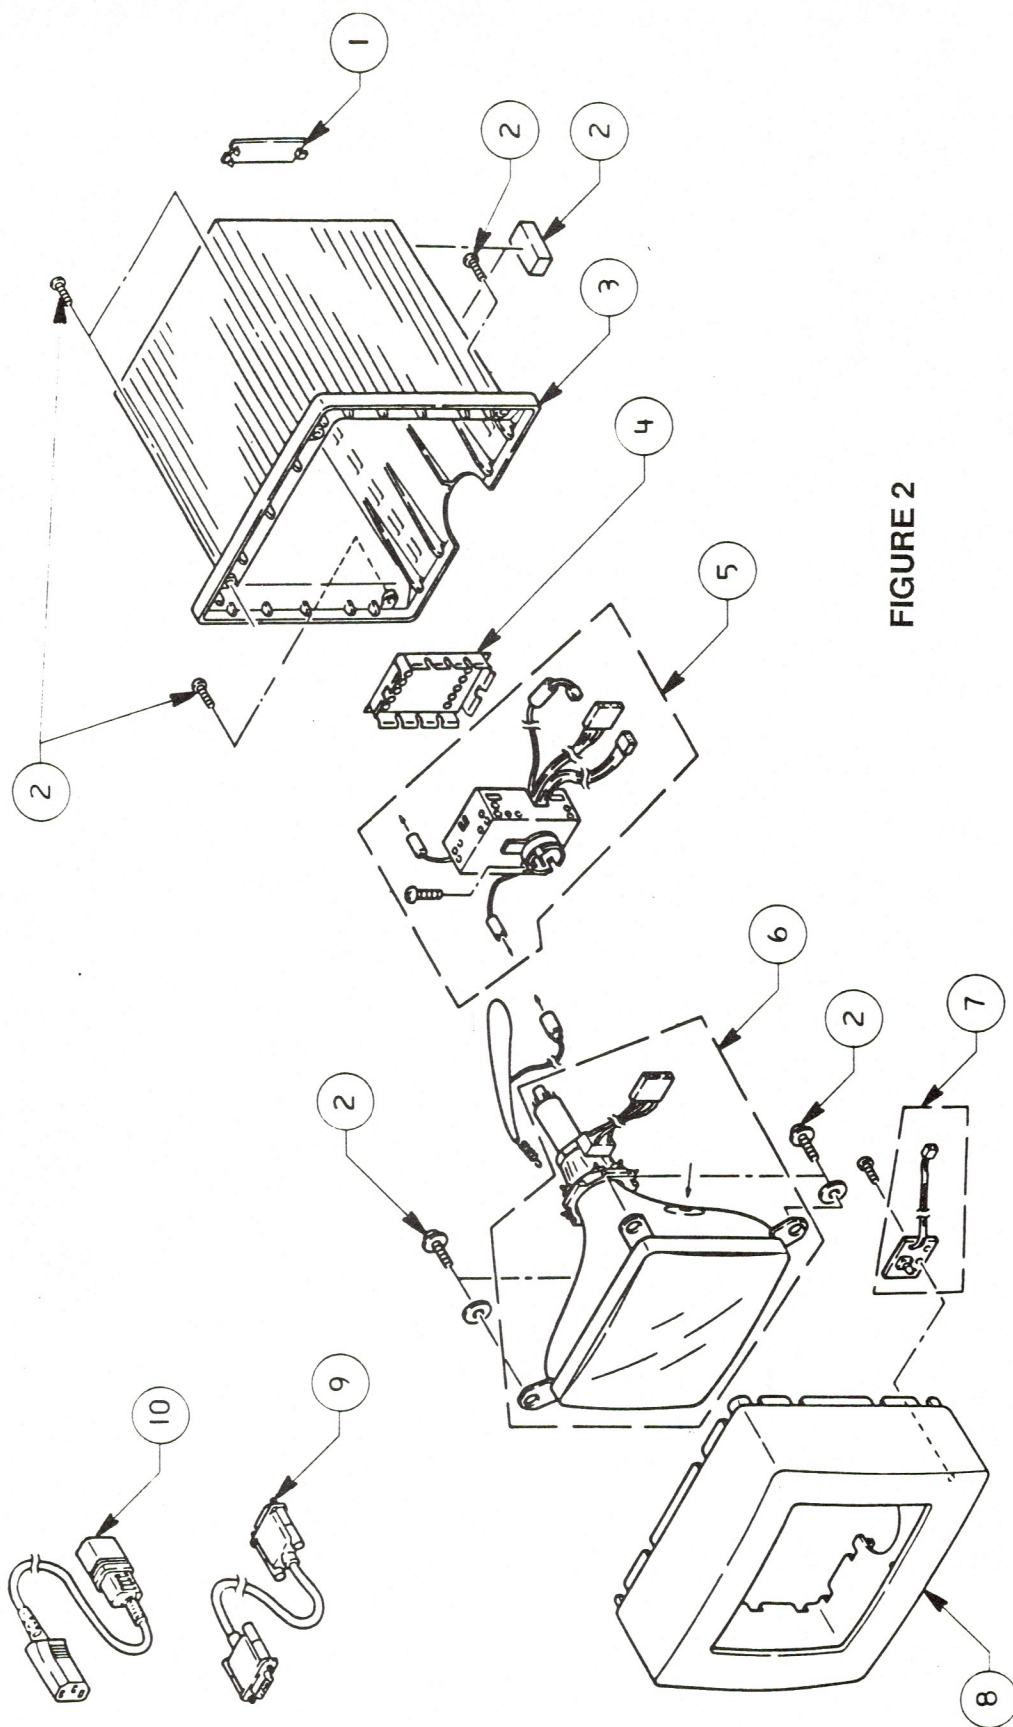

FIGURE 2
- IPL.5 CRT Case Assembly (Figure 2)
□ CRT CASE ASSEMBLY (Figure 2)